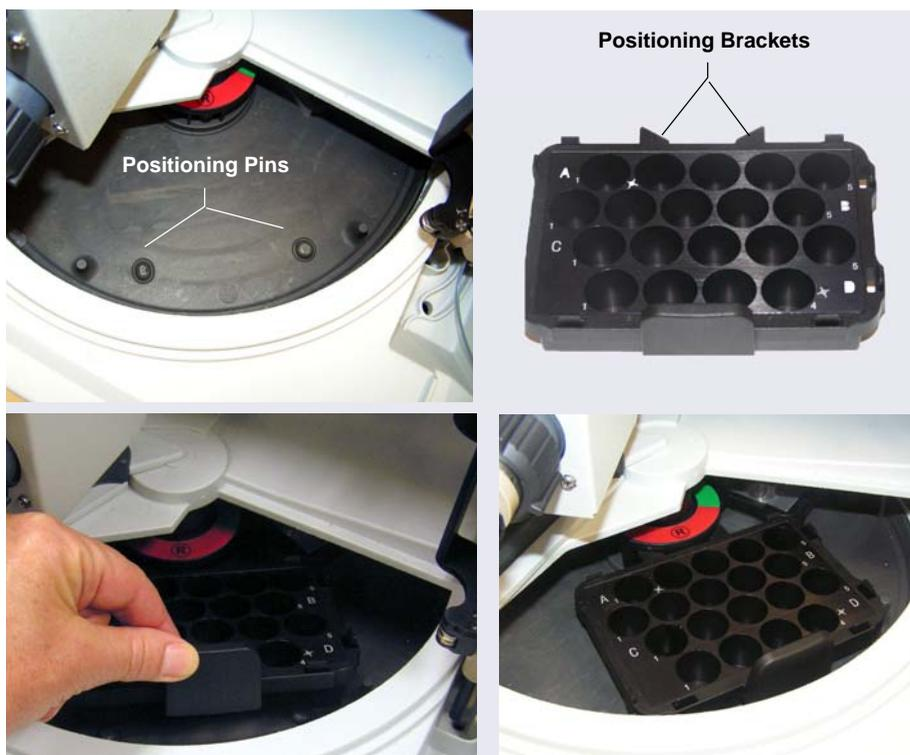

Figure 3-5. Installing a Sample Tray in the Carousel
- a. Note the positioning pins on the carousel (see Figure 3-5) and the corresponding indentations on the bottom of the tray.